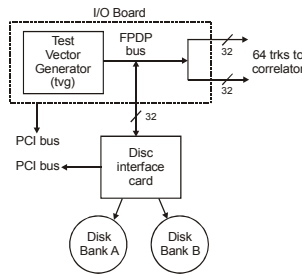

Figure 5: Diagram of 'tvgr' data mode
1. ‘tvg’ – (test-vector generator; see Figure 5) an on-board tvg produces a standard VSI test pattern that can be recorded and checked on disk with Mark 5A software.